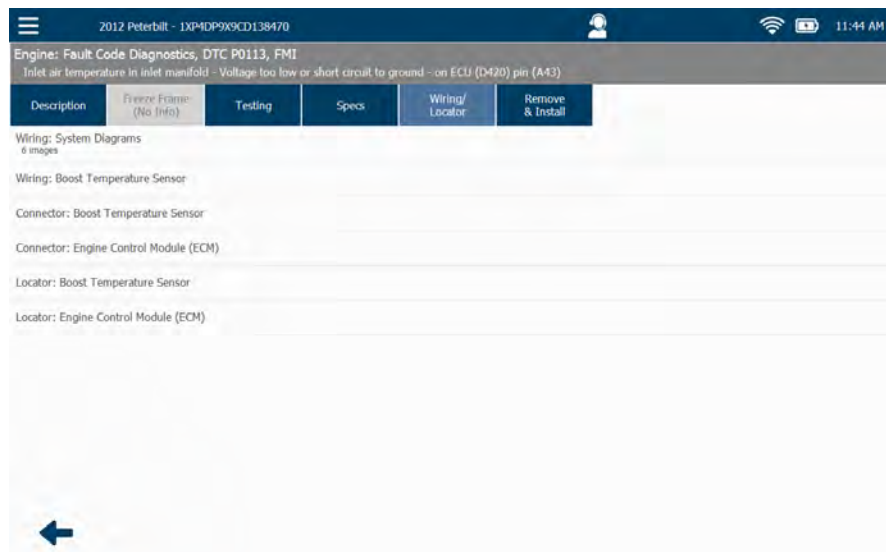

Figure 10.15 List of Wiring Diagrams
- Use the **Back Arrow** to return to the list of wiring diagrams (Figure 10.15).